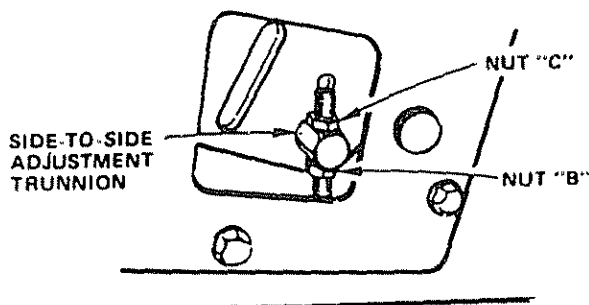

FIGURE 32
- If distance "A" needs to be changed, snap out access hole cover on L.H. side above footrest. Use 9/16" wrench on nuts "B" and "C" at side-to-side adjustment trunnion (Fig. 32).